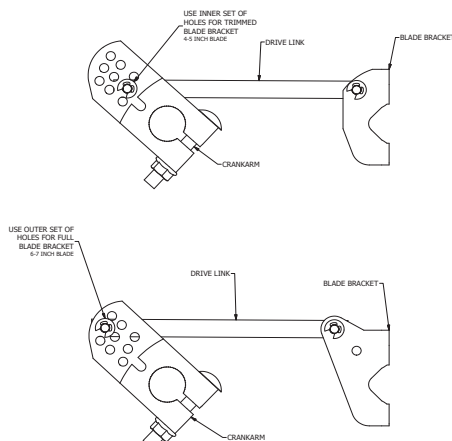
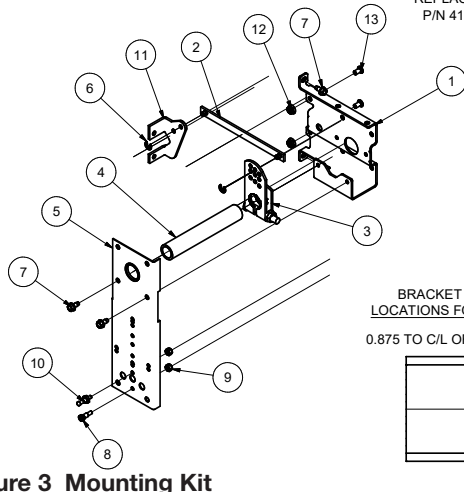

Figure 2: Drive Link Placement on Crankarm
Figure 3 Mounting Kit
- actuator bracket (item #1). Fasten actuator bracket to the left jamb of damper frame using (1) thread cutting screw in top tab of bracket (0.203 in. hole is required). Note bottom tab does not get a fastener.
- Secure the drive link (item #2) to the blade drive lever (item #13) using the e-clip (item #6) to lock it in place. Slide ½ in. diameter shaft (item #4) through the crankarm (item #3) with the bolt facing outward from the damper. Slide the shaft through the bearing on the actuator bracket (item #1). Install the drive link (item #2) to the crankarm (item #3) using an e-clip. See **Figure 2** to determine the hole to attach the drive link.
- Drill (2) 0.203 inch holes in the first blade (when one or two blade damper) or third blade (more than a two blade damper) at a location as shown above for the blade type you have (see **Figure 3**).
- Install (2) ¼ -20 x ½ studs (item #14) and nuts (item #13) through holes in damper frame and attach the actuator bracket (item #1). Fasten actuator bracket to the left jamb of damper frame using (1) thread cutting screw in top tab of bracket (0.203 in. hole is required). Note bottom tab does not get a fastener.
- Secure the drive link (item #2) to the blade drive lever (item #12) using the e-clip (item #6) to lock it in place. Slide 1 in. diameter shaft (item #4) through the crankarm (item #5) with the bolt facing outward from the damper. Slide the shaft through the actuator bracket (item #1). Install the drive link (item #2) to the crankarm (item #3) using an e-clip. See **Figure 2** to determine the hole to attach the drive link.